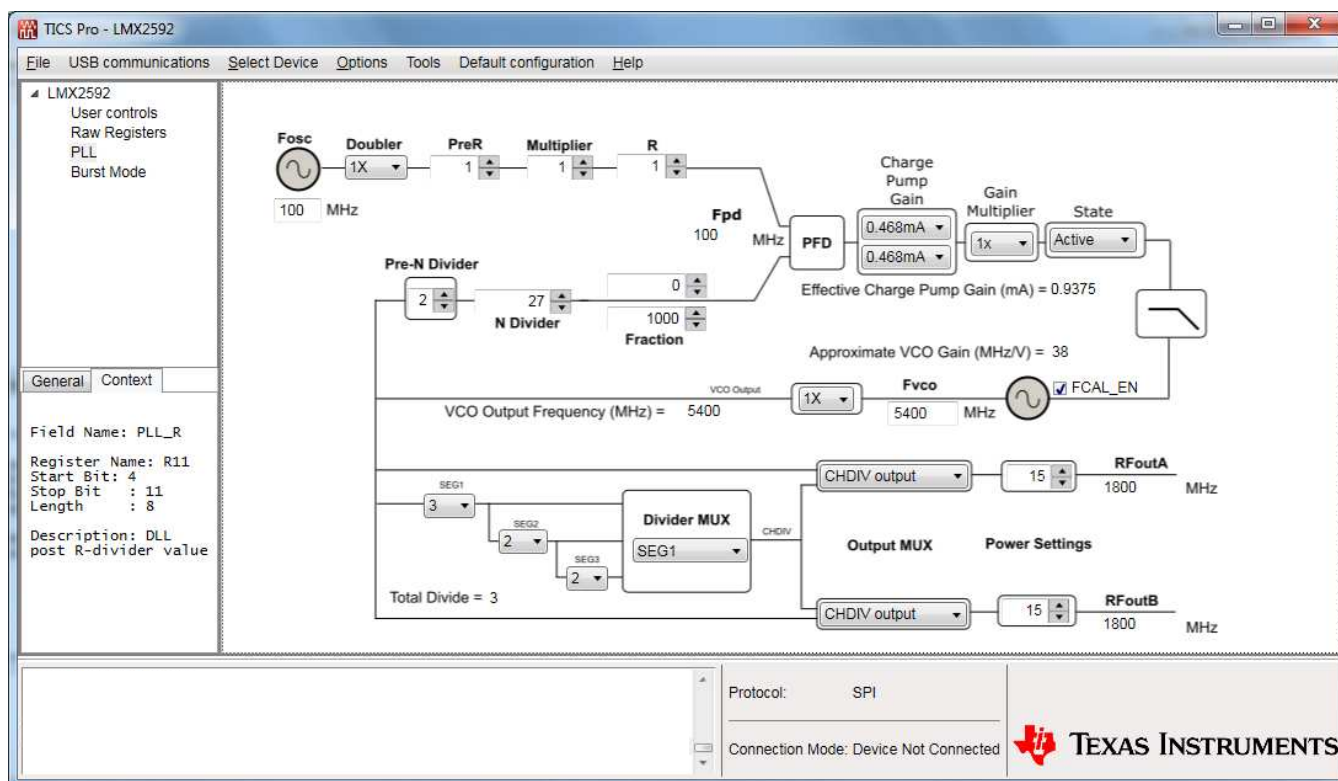

Figure 3-1. Software Screenshot
1. The software should be opened as shown in Figure 3-1: